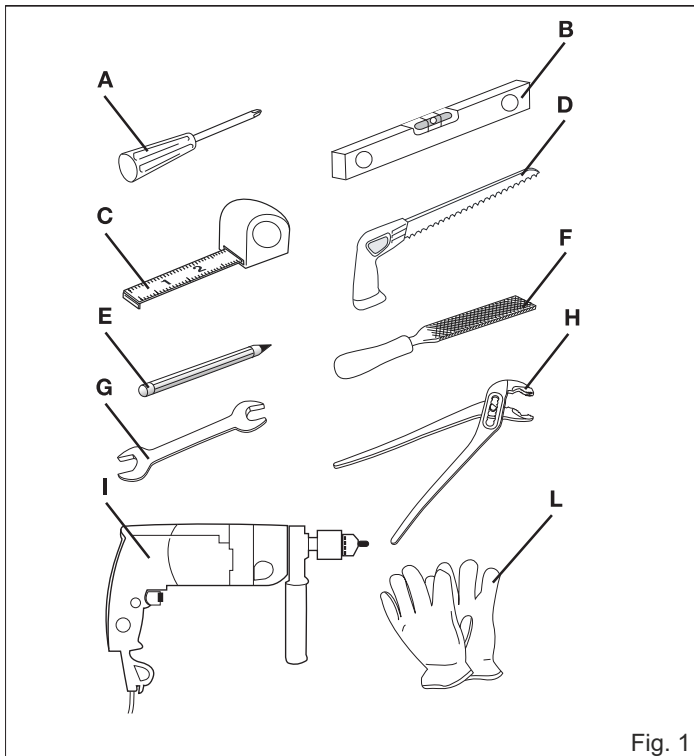

Fig. 1
- phillips screwdriver (rif. A Fig. 1);
- spirit level (rif. B Fig. 1);
- tape measure (rif. C Fig. 1);
- compass saw (rif. D Fig. 1);
- pencil (rif. E Fig. 1);
- file (rif. F Fig. 1);
- 13mm open-ended wrench(rif. G Fig. 1);
- plumbing pliers (rif. H Fig. 1);
- drill (rif. I Fig. 1);
- safety gloves (rif . L Fig. 1).